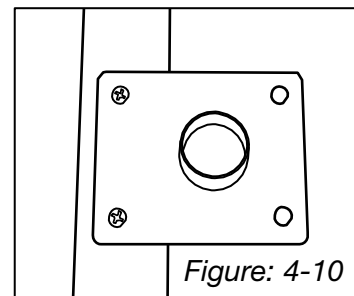

Figure: 4-10
- A. **MOUNT FLANGE:** Mount flange to desired location on wall stud or floor using appropriate size screws to provide a firm mount. Figure: 4-10 Do not attach the fitting to the flange at this point. This will be done after the fitting to pipe connection has been completed. Insert pipe through the back of the flange after preparing pipe in accordance with steps 1 thru 3, **making sure to strip jacket to expose FIVE corrugations.**